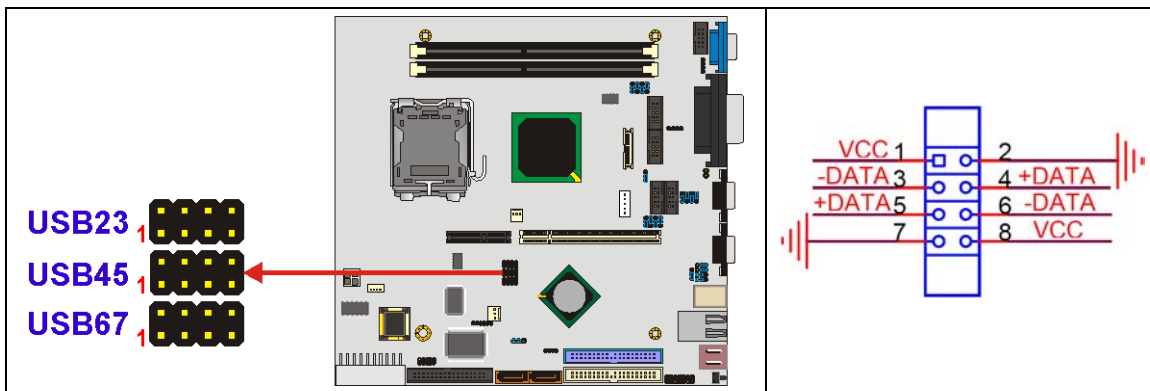

Figure 3-21 USB Connector Locations
**CN Location:** See Figure 3-21